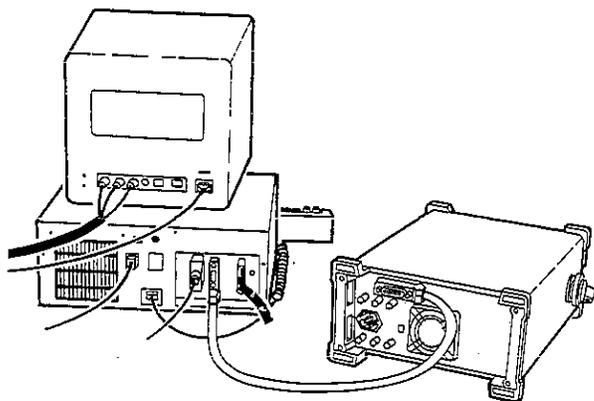

Figure 1-4
1. Connect the spectrum analyzer to the computer using the HP-IB cable as shown in Figure 1-4.